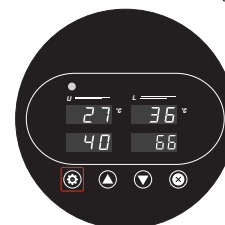

Fig. 5
5. Press Set ⚙ button again (Fig. 5) to go into the timer setting mode.